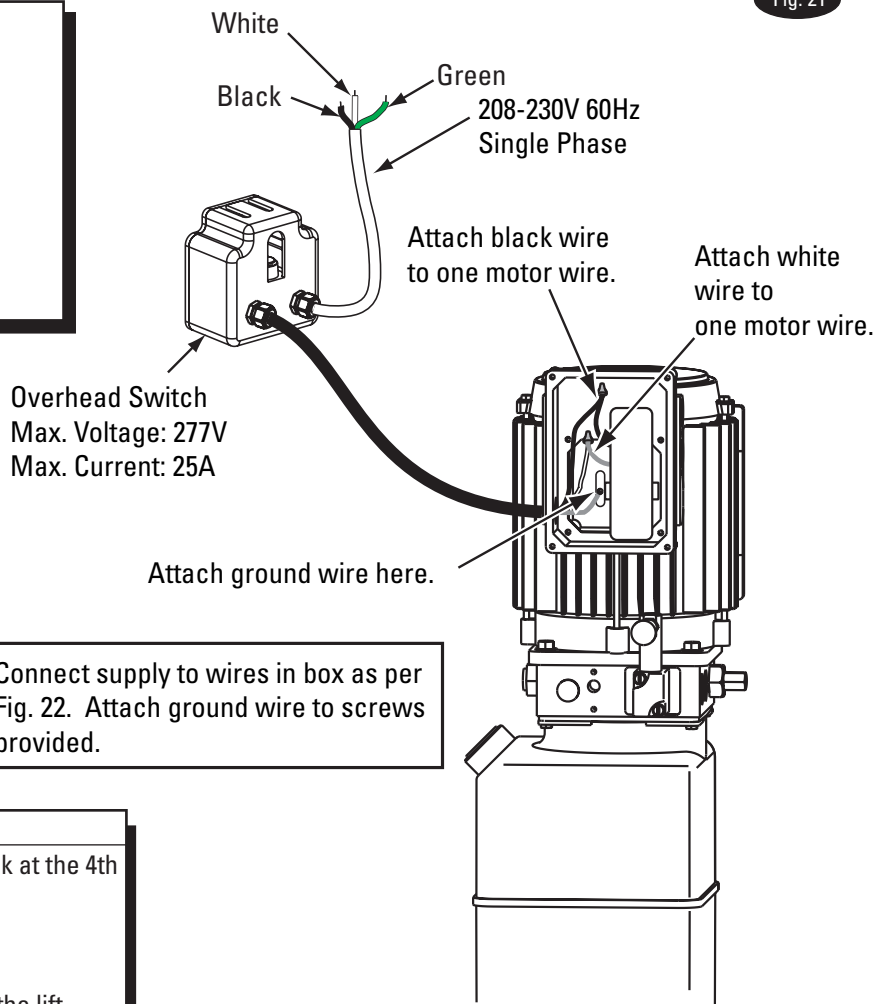
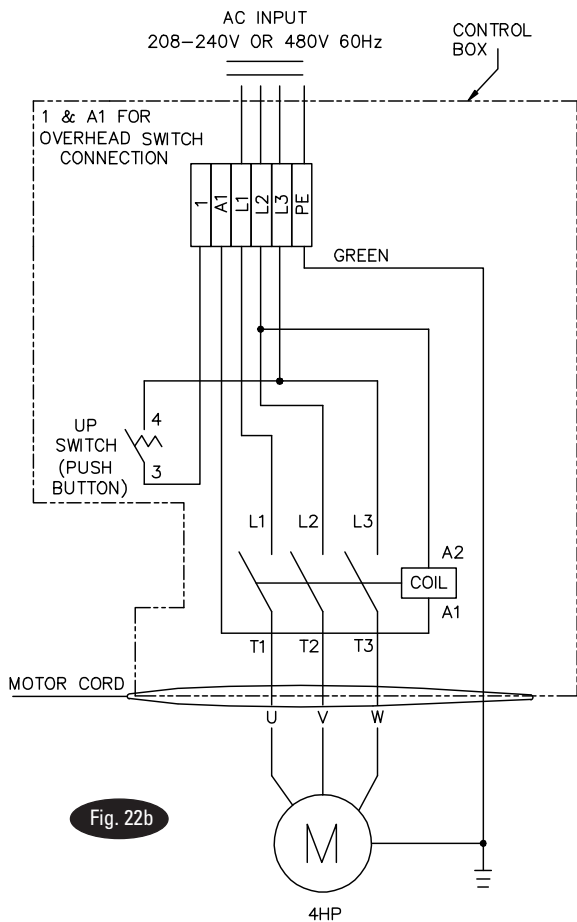

Fig. 21
Fig. 22b
13. Electrical: Have a certified electrician run appropriate power supply to motor, Fig. 21 & 22. Size wire for 20 amp circuit. See Motor Operating Data Table.
IMPORTANT: Use separate circuit for each power unit. Protect each circuit with time delay fuse or circuit breaker. For single phase 208-230V, use 20 amp fuse. Three phase 208-240V, use 20 amp fuse. For three phase 400V (*E Model) and above, use 10 amp fuse. For three phase 380V (*S Model) use 16 amp fuse. For wiring see Fig. 21, Fig. 22, and Fig.22b. All wiring must comply with NEC and all local electrical codes.
16. Overhead switch: Check overhead switch assembly to assure that switch bar is depressing switch plunger sufficiently to actuate the switch. The overhead switch is wired normally open, see Fig. 21, Fig. 22, and Fig. 22b. Lift will not operate until weight of switch bar is depressing switch plunger. Verify that Power Unit stops working when switch bar is raised, and re-starts when the bar is released.